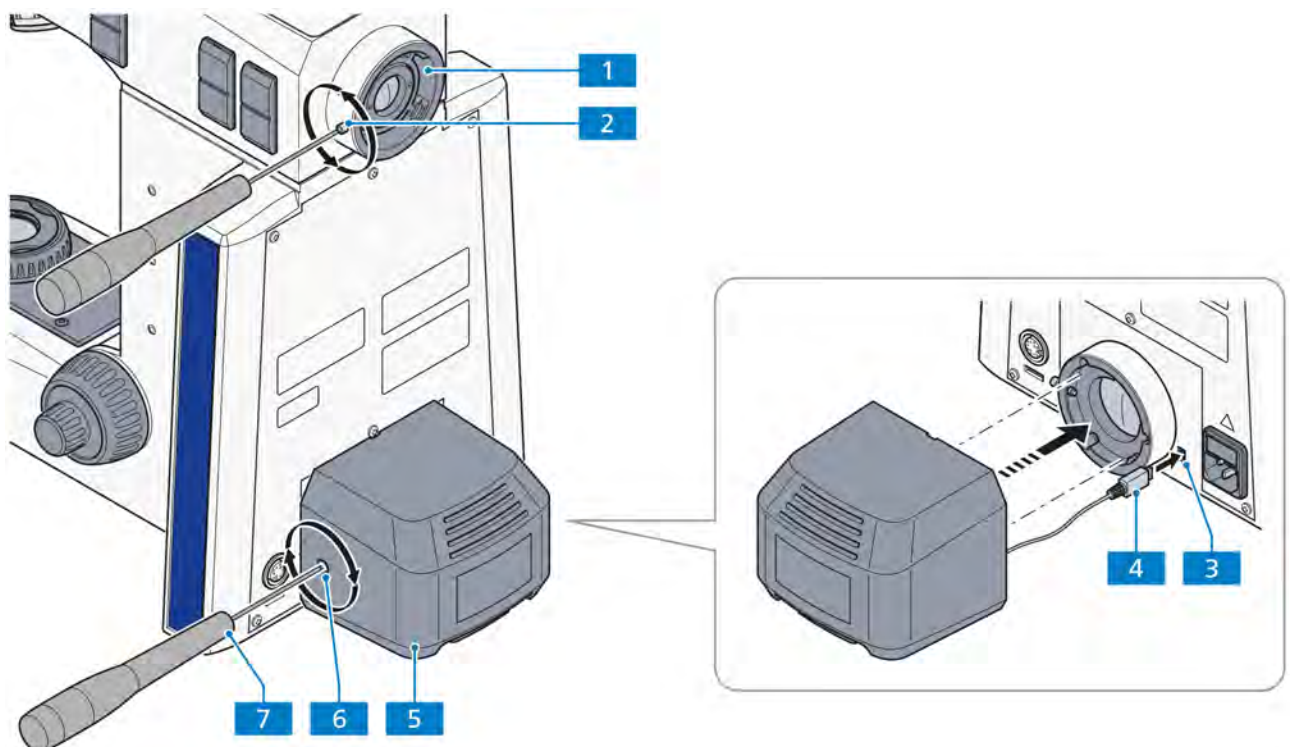

Fig. 3-27 Mounting the TL LED10 illuminator or RL LED10 illuminator
- Using the Allen wrench (AF 3) (Fig. 3-27/7), loosen the clamping screw of the TL illumination connector (Fig. 3-27/6) or of the RL illumination connector (Fig. 3-27/2) at the back of the stand.
- Connect the illuminator's power plug (Fig. 3-27/4) to the socket (Fig. 3-27/3) on the lower part of the stand (or the upper part of the stand).